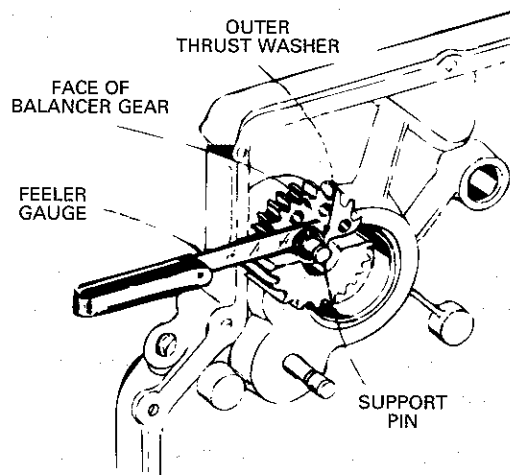

Fig. 3
5. Check end play: balancer gears must rotate freely but not too loose. Place a feeler gauge between outer thrust washer and gear face (both gears). Clearance should be 0.003 to 0.004 inch, see Fig. 3. If there is too much clearance between gear and thrust washer, press support pin in until correct clearance is obtained. Not enough clearance – press support pin outward.